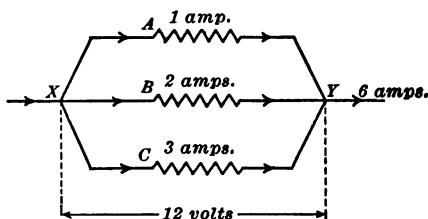

FIG. 253. — Three resistances in parallel.
**292. Parallel arrangement.** When the several resistances are so arranged that the current divides between them, as shown in figure 253, part going through *A*, part through *B*, and the rest through *C*, they are said to be in **parallel** or **shunt**.
*total* resistance of the combination. Thus, if the voltage across *A*, *B*, and *C* in figure 253 is 12 volts, and the total current is 6 amperes, the total resistance is 2 ohms.